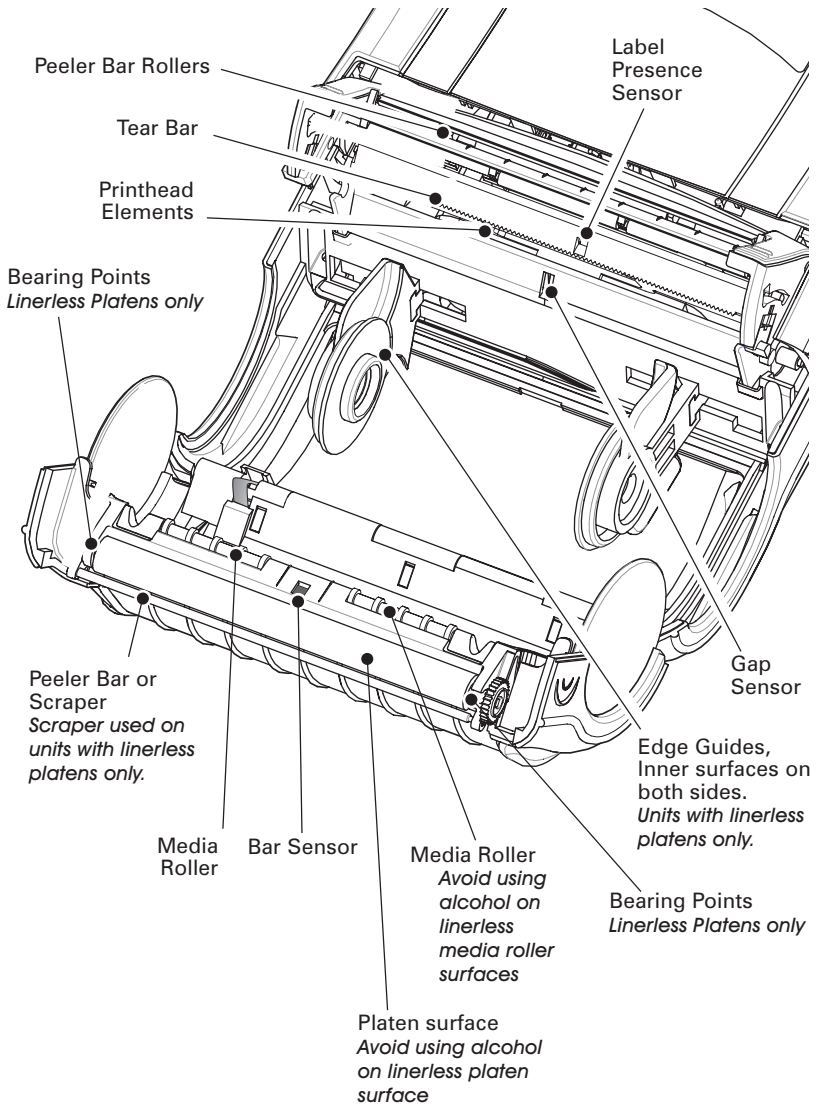

Figure 22: Cleaning the QL 420
Platen Roller (Figure 22)	Rotate the platen roller and clean it thoroughly with the cleaning pen or 70% isopropyl alcohol and a cotton swab.
Refer to Figures 22 and 23 for a sample configuration print-out.
- Unit serial number (Found on the large label on the back of the printer, also found in the configuration label print-out. Refer to Figures 22 and 23)